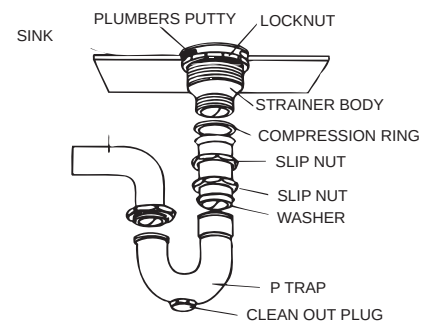

Figure 6
14. Connect the drain tailpiece to the bottom of the basket strainer, then fasten the trap and drain extension to the wall stub-out in the wall. See Figure 6. You may use metal or plastic drain pipe and trap, following the directions